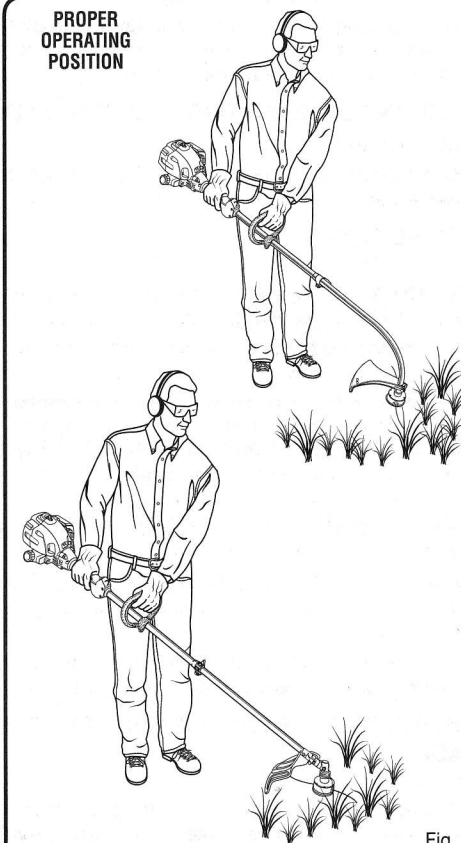

Fig. 15
See Figure 15.
- Avoid hot surfaces by always keeping the tool away from your body. (Proper operating position shown in figure 15.)